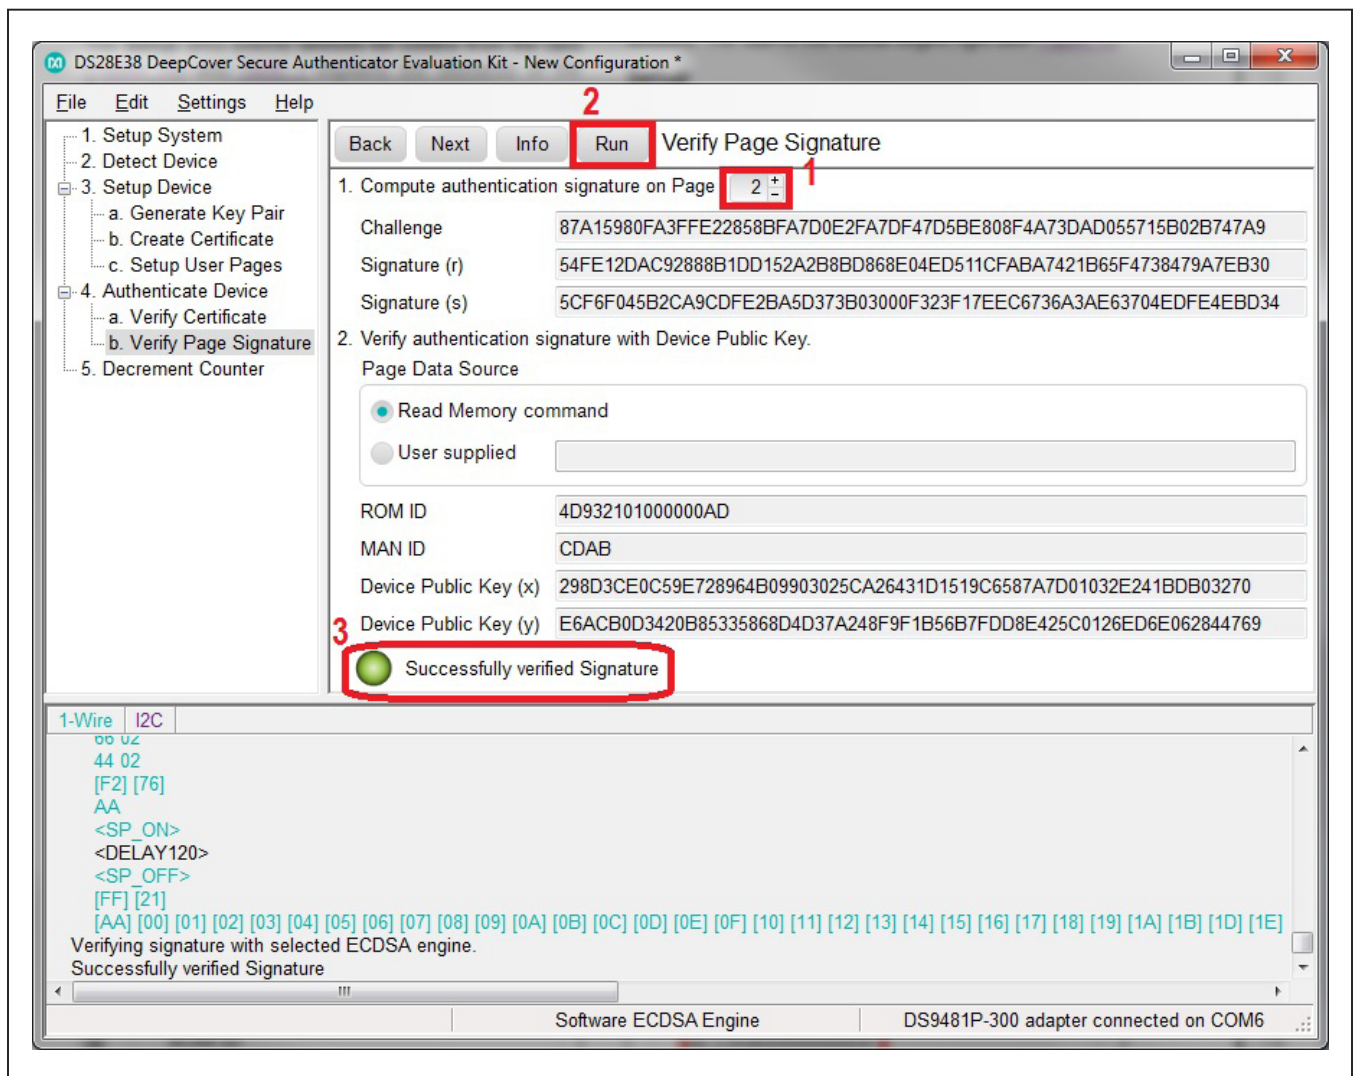

Figure 22. Verify the Signature
- b. The host now needs to verify a page signature. Adjust the **Compute authentication signature on Page** field to page 2 where your user data resides. Click on the **Run** button for the host to verify the signature from page 2 of the DS28E38. Confirm the status updated displays **Successfully verified Signature** (Figure 22). During the run process, the host sent a challenge (i.e., generated by the RNG of the host) to the DS28E38 and requested a signature of page 2. The host then reads the signature generated and the page 2 data. Lastly, the host verifies the signature with the device public key. The DS28E38 can now be considered authenticated,